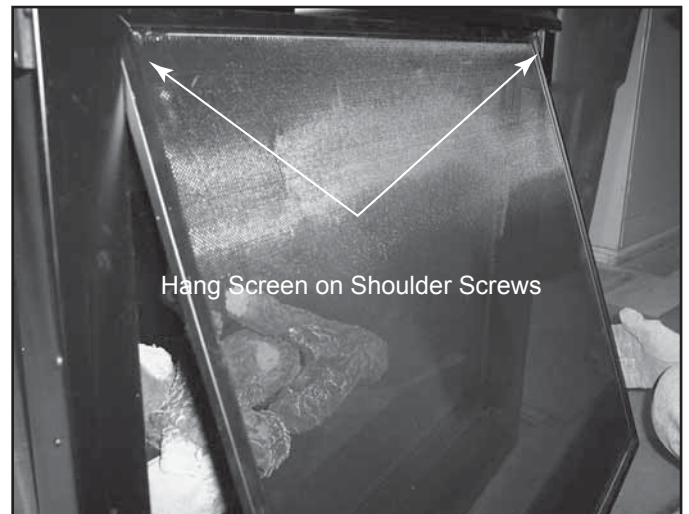

Figure 11.18 Hang Screen
- Hang the screen on the shoulder screws in the columns. See Figure 11.18.